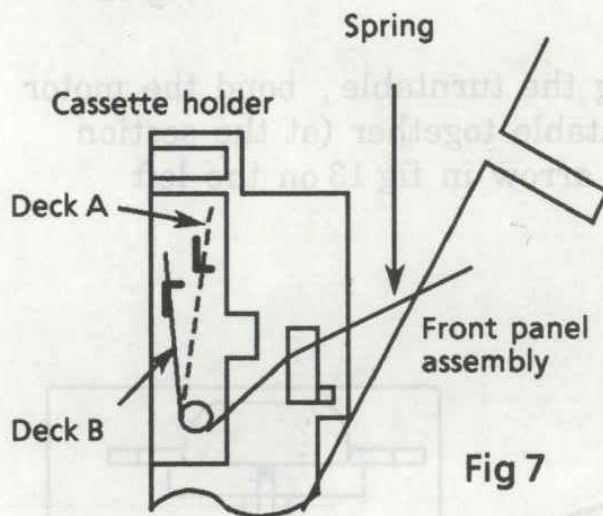

Fig 7
3. Remove the spring hooked on the holder (Fig 7).